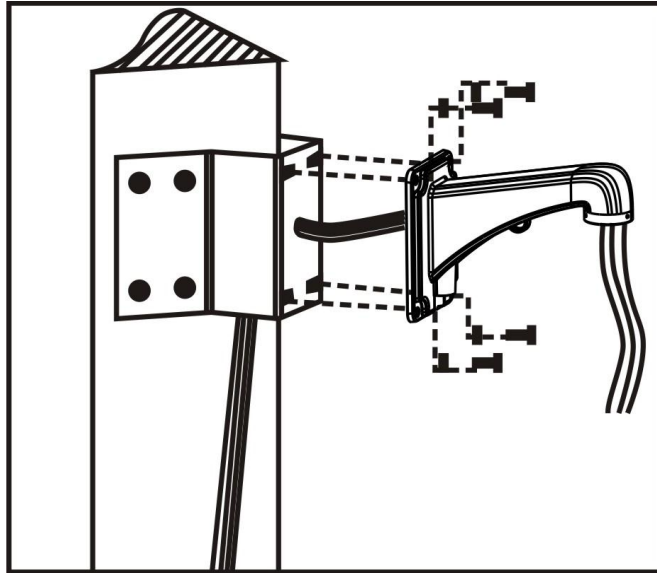

Fig 2.7
c. As shown in fig 2.7, fix the wall hanging bracket with all cables power through it on the corner mounted attachment.